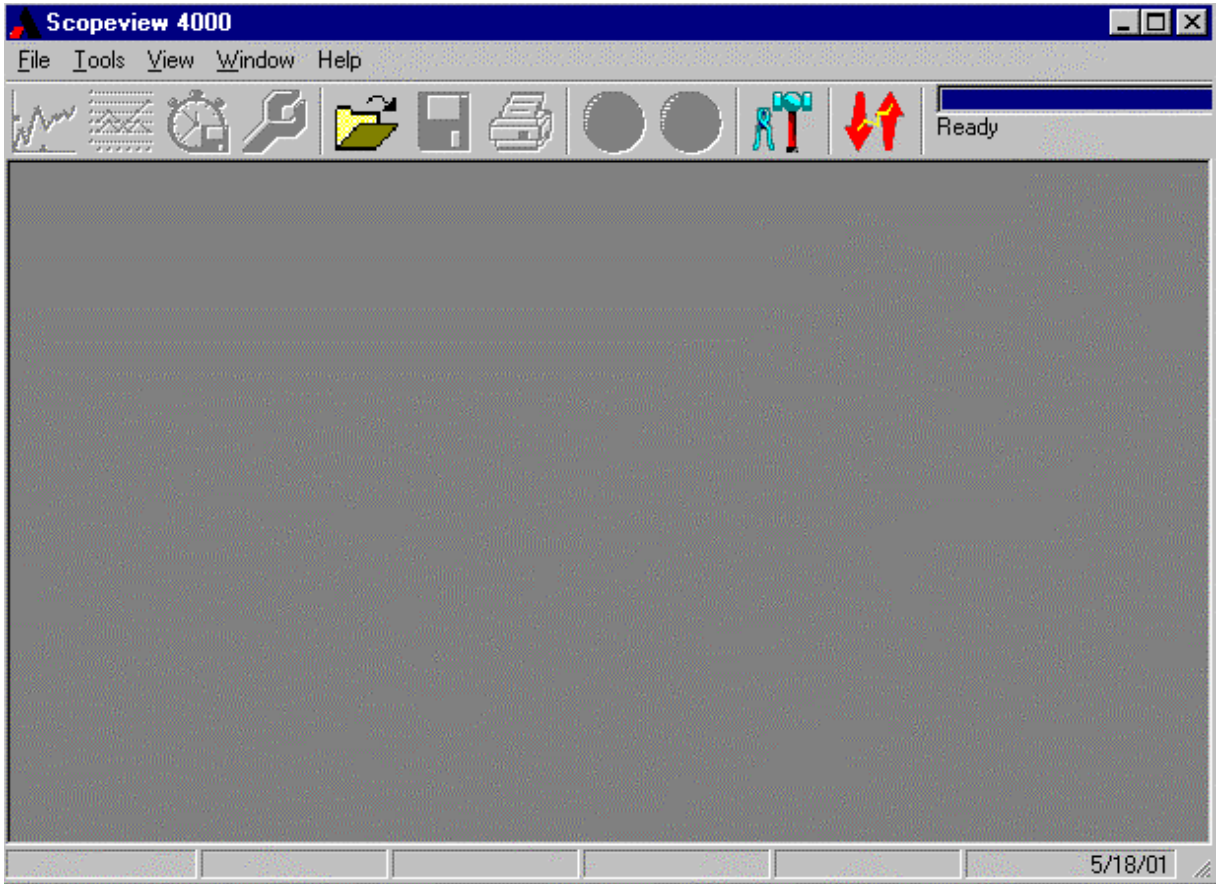

Figure 1 Main Screen
- a) Open Scopeview- Key on the Scopeview icon and the Scopeview screen will appear indicating the revision level 1.3. For new users a message will appear indicating attempts (4) to link up with the CCS4000. An error message will appear if it is not successful. Subsequent Scopeview calls (starts) will display the Option dialog window, unless otherwise changed in the Option communications setup. The Main Scopeview window (see Figure1) will appear after all pre-communication activity has been completed. This is the primary window that all subsequent activity will be presented.